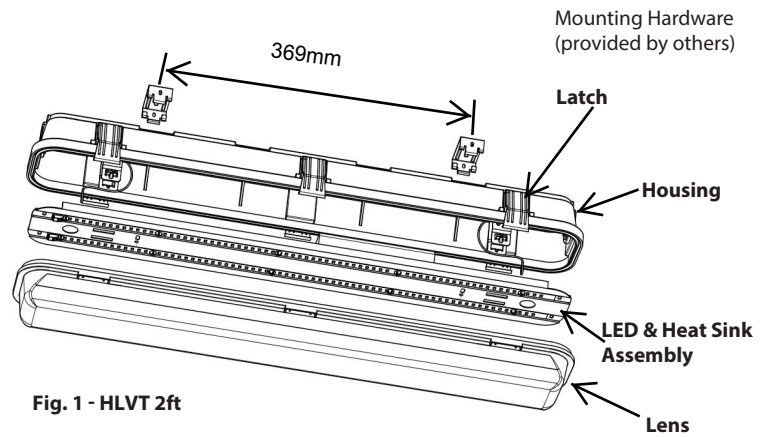
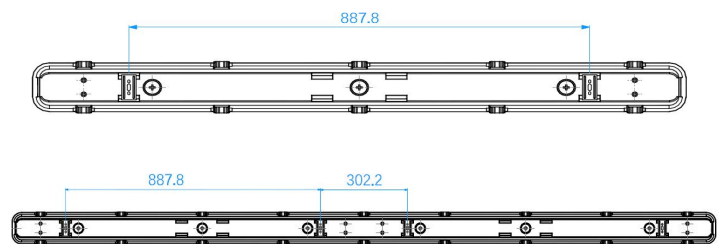

Fig. 1 - HLVT 2ft
Fig. 2 - HLVT 4FT & 8FT
1. Use appropriate mounting hardware (not supplied) to secure the **Snap On Brackets** to mounting surface. Refer to recommended **Snap On Bracket** in **Fig. 1** for HLVT 2ft and **Fig 2** for HLVT 4FT&8FT.
WARNING: Mount Snap On Brackets symmetrical about the center as shown in **Fig. 1** and **Fig. 2**. **Snap On Brackets** must be aligned with each other to secure **Housing**.
3. Snap **Housing** on **Snap On Brackets (2)** as shown in **Fig. 2, Page 1**. Ensure that **Housing** is secure to **Snap On Brackets (2)** onto the grooves on **Lens** as shown in **Fig. 1, Page 1**.